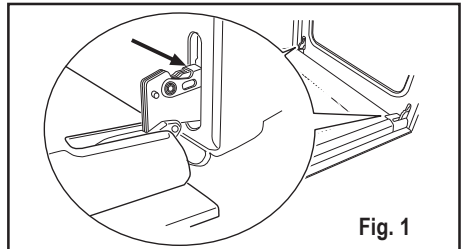

Fig. 1
2. locate the two door hinges (Fig. 1);